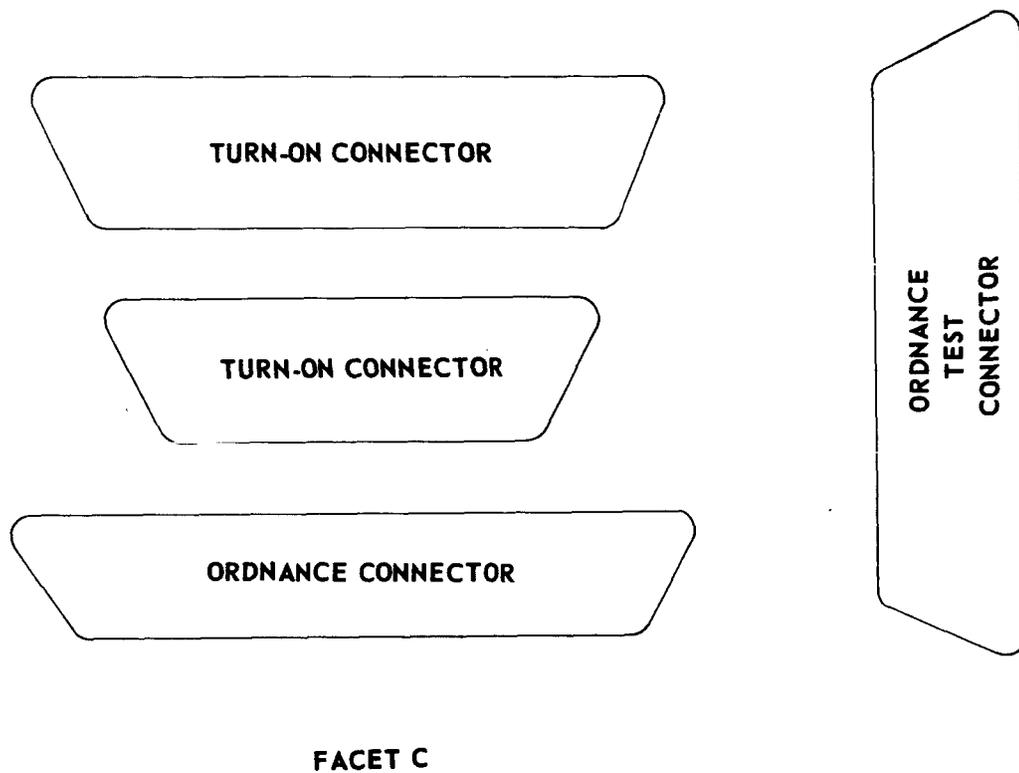

Figure 1. Spacecraft Connector Locations
2. Verify that the turn-on plug (either live or GSE) is installed. (see Figure 1)
7. Remove the SAFE ordnance test plug and plug the Spacecraft End of the pyrotechnic test cable into the spacecraft ordnance test connector. (see Figure 1)